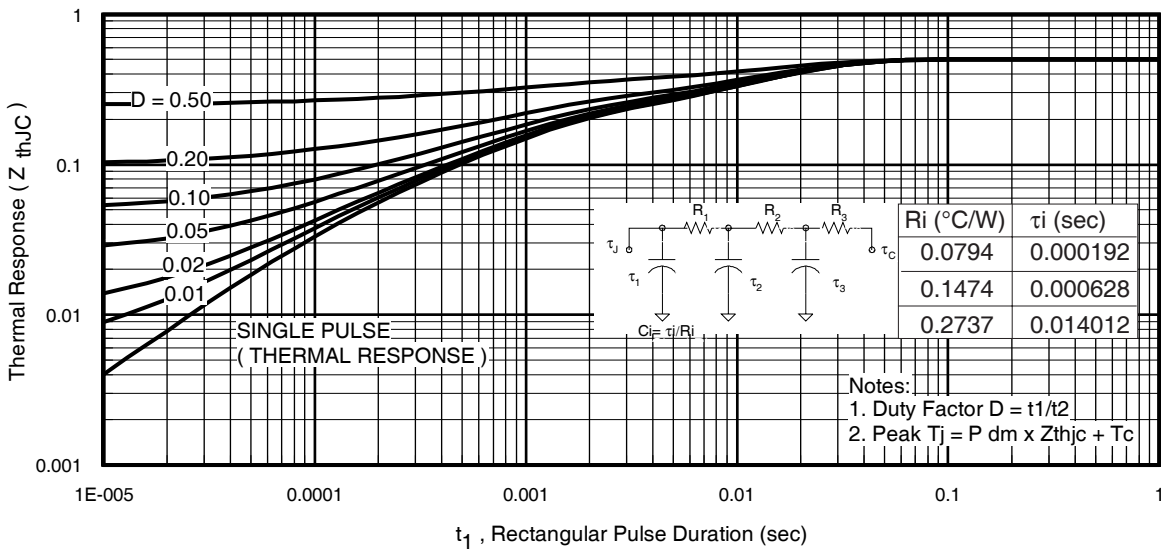

Fig 11. Maximum Effective Transient Thermal Impedance, Junction-to-Case
- ① Repetitive rating; pulse width limited by max. junction temperature. (See fig. 11).
- ② This value determined from sample failure population starting $T_J = 25^\circ\text{C}, L = 0.043\text{mH}, R_G = 25\Omega, I_{AS} = 140A, V_{GS} = 10V$.
- ③ Pulse width $\leq 1.0\text{ms}$; duty cycle $\leq 2\%$.
- ④ $C_{oss\ eff.}$ is a fixed capacitance that gives the same charging time as C_{oss} while V_{DS} is rising from 0 to 80% V_{DSS} .
- ⑤ This is applied to D²Pak, when mounted on 1" square PCB (FR-4 or G-10 Material). For recommended footprint and soldering techniques refer to application note #AN-994.
- ⑥ R_G is measured at T_J of approximately 90°C .
- ⑦ Solder mounted on IMS substrate.
- ⑧ Limited by T_{Jmax} starting $T_J = 25^\circ\text{C}, L = 0.043\text{mH}, R_G = 25\Omega, I_{AS} = 140A, V_{GS} = 10V$. Part not recommended for use above this value.
$Z_{thJC}(D, t_{av})$ = Transient thermal resistance, see figure 11)